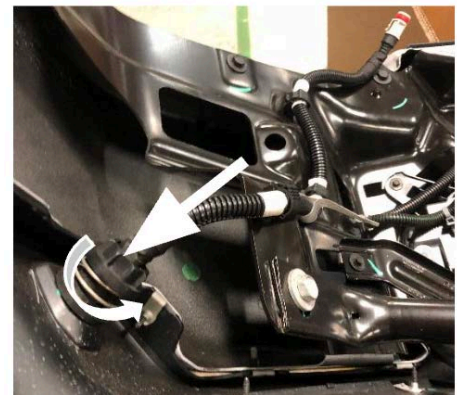

Figure 15.
14. If equipped, remove the engine heater plug located on the driver side of the truck bumper. Push the bumper in against the spring and turn counterclockwise, once unclipped pull out from the bumper. Figure 15.